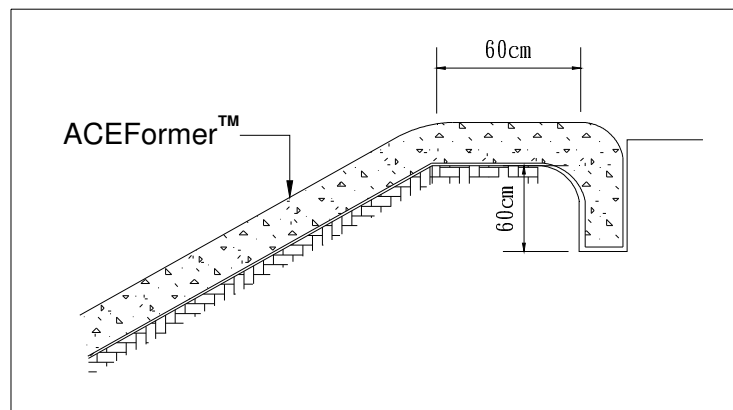

Figure 3. Illustration of anchorage at the top of slope
- b. Leave a horizontal flat surface of at least 60 cm between the anchor trench and the slope at the top to get a better anchorage after filling. Note the minimum depth required for top anchor trench is 50 cm for applications at river bank and channel, and 60 cm for marine structural applications. Illustration of the anchorage at the top of the slope is shown in Figure 3.